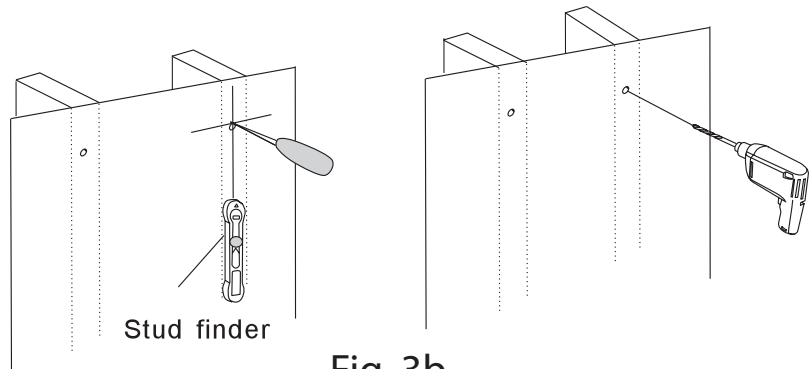

Fig. 3b
2. Place the **Wall Plate (1)** flat against the wall with the center of the mount in the desired location, aligning the holes in the mount with the studs (Fig. 3b). Use the wall mount plate as a template to mark the location of the four mounting holes on the wall. Make sure that the mounting holes are level and are parallel using the built-in level on the front of the **Wall Plate (1)**.